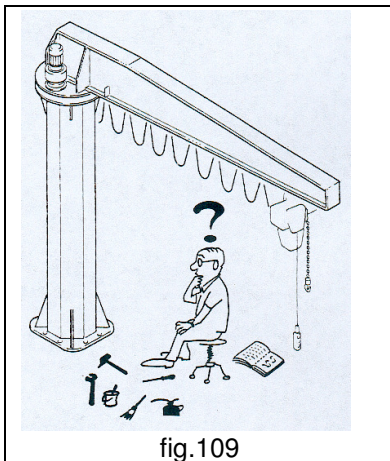

fig.109
- **NEVER** leave the crane at the end of a job without having implemented the safety procedures (fig.109).